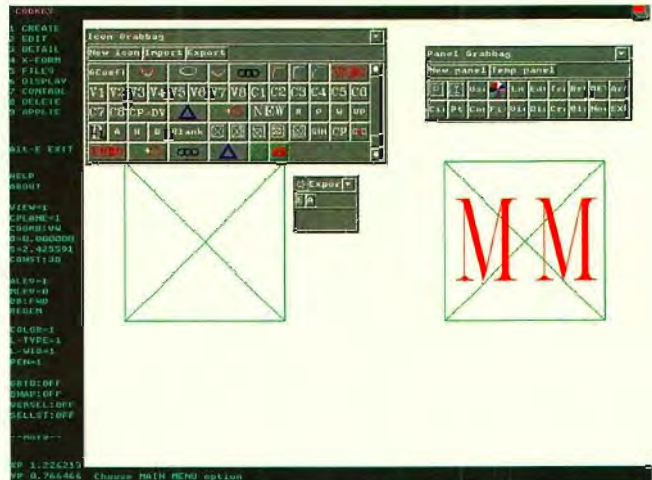

Figure 4
1. In the *Icon Grabbag*, click on **Export (E)**. The temporary *Export panel* appears. See Figure 4.